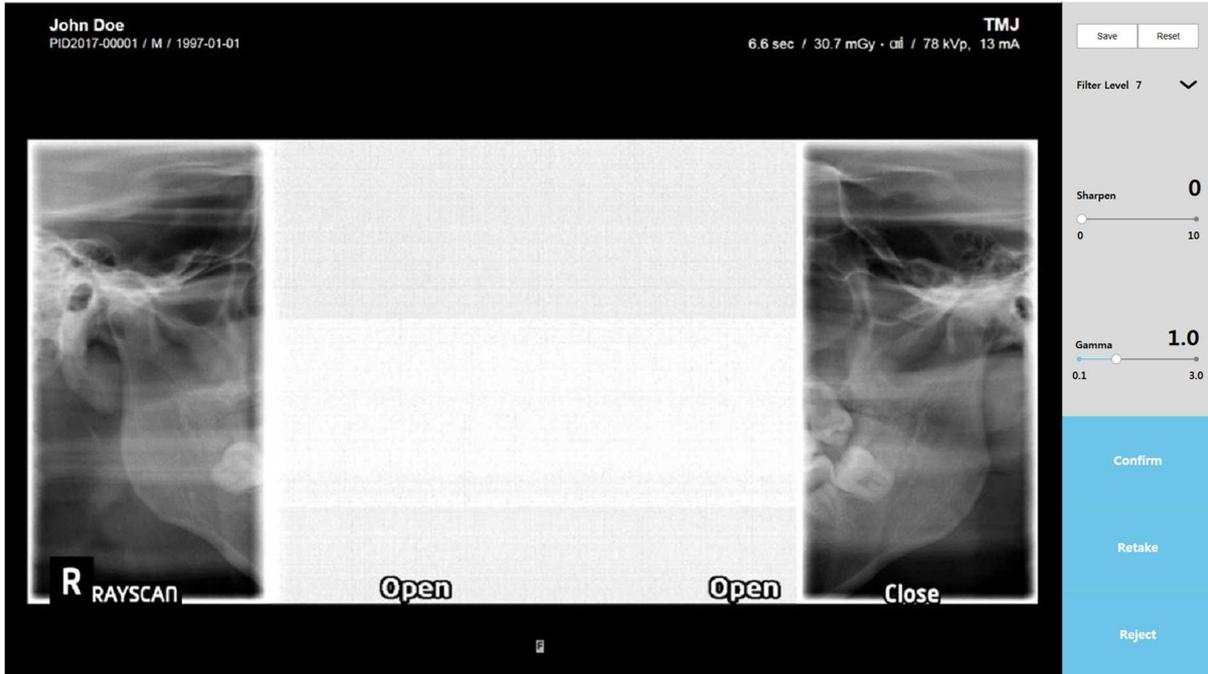

Fig 16 TMJ 2-View
**2-View scan:** On TMJ Select screen (Fig 15), select either Open or Close to scan and the result image is displayed as 'Fig 16'.
**4-View scan:** On TMJ Select screen (Fig 15), select 4-View option and scan Close images first. As soon as the scan is finished, the result image pops-up (Fig 16). Click [Confirm] to scan Open images as following. After all the scans, the final image is displayed in 1 image view 'Fig 17'.